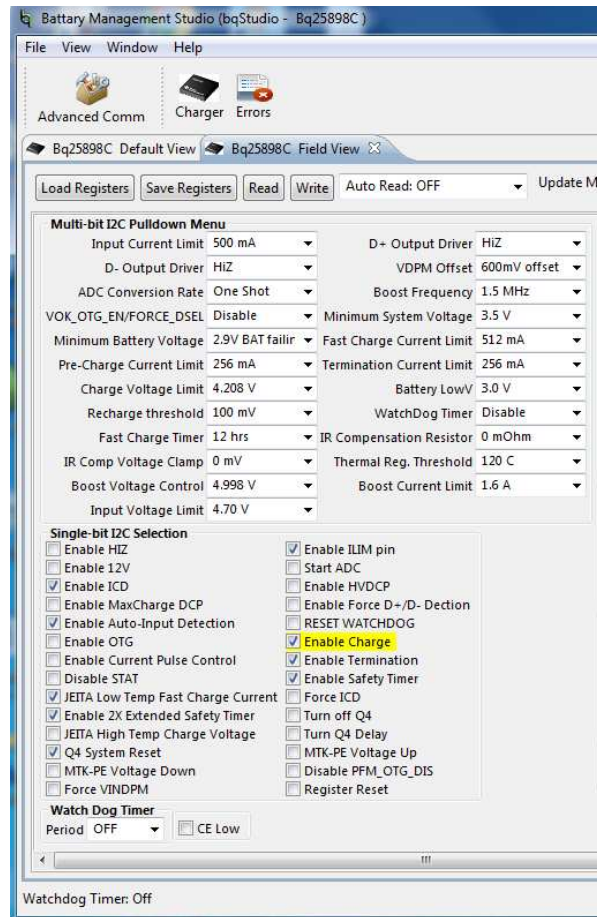

Figure 4. Setup Window of the bqStudio Evaluation Software
- Deselect *Enable Termination* (see Figure 4).